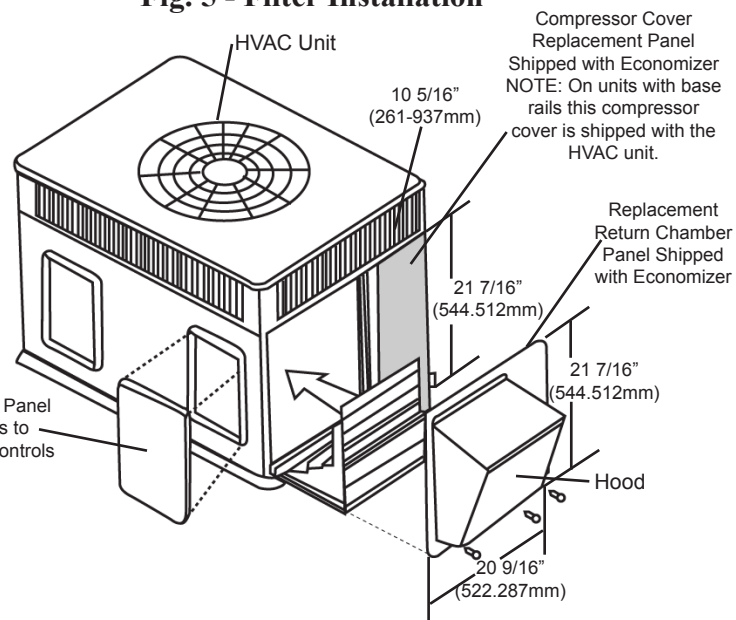

Fig. 6 - Economizer Installation
8. Install the economizer assembly into the return air chamber, making sure the economizer completely covers the bottom return air opening. See Fig. 6. Remove the red shipping tape holding the relief dampers closed.
9. Install the replacement return chamber panel over the economizer assembly and underneath the drip flange on the HVAC unit. Line up the bottom center hole on the panel with the hole in the bottom of the economizer and the mating hole in the base of the HVAC unit. Insert screw, which will hold all parts in place. Insert screws on bottom, left, and right of panel and on panel right side as well. See Fig. 6.
NOTE: The economizer control settings and the filters are accessible through the horizontal return opening on side of HVAC unit. See Fig. 6.
16. Install the compressor access panel provided with the economizer. Secure to HVAC unit per Figs. 6 and 7. Units with base rails will have compressor panel shipped with.